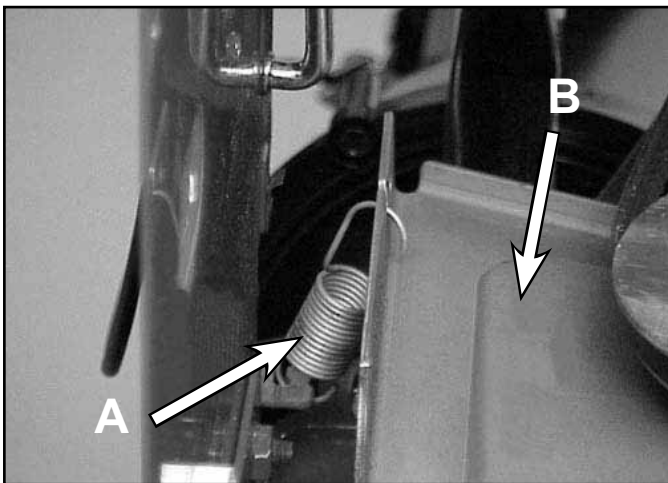

Fig 111
14. Reach up to the far left corner of the pulley pivot assembly and unhook the spring from the pivot assembly (Fig. 111).